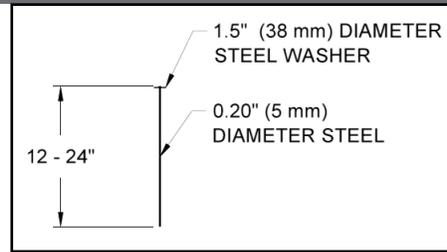

**Figure 4: Initial Channel (IC) Trench Alignment**
2. Lay the LANDLOK panel on the downstream side of the IC trench (Figure 4). Place the panel edge in the IC trench, ensuring full coverage along the bottom of the entire IC trench with the LANDLOK (Figure 5).